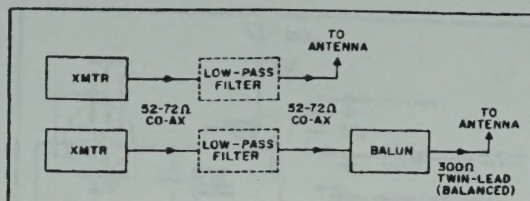

FIGURE 1
2. Connect the antenna feed line co-axial cable to the RF output co-axial receptacle on the rear chassis apron. An Amphenol 83-1SP type or equivalent male connector is required for this connection. If a single wire or twin lead is employed, attach a banana plug to the end of the single wire or one conductor of the twin lead and insert it in the center hole of the receptacle. (The remaining conductor of the twin lead should be connected to the adjacent ground binding post). In areas where interference with TV reception is a difficulty, it is recommended that a low-pass filter and possibly an antenna coupler be inserted between the RF transmitter and the antenna feed line. A short length of co-axial cable should be used to connect the transmitter RF output to the input end of the filter and the antenna feed line co-ax should be connected to the output of the filter. A balanced type of feed line (300Ω, 600Ω, etc.) requires an antenna coupler or balun matching device for proper connection to the transmitter or low-pass filter. (See Fig. 1.) For satisfactory use of a low-pass filter, a low SWR is necessary.